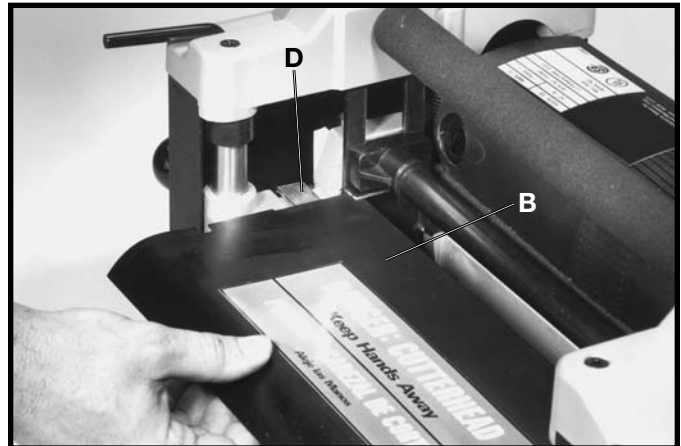
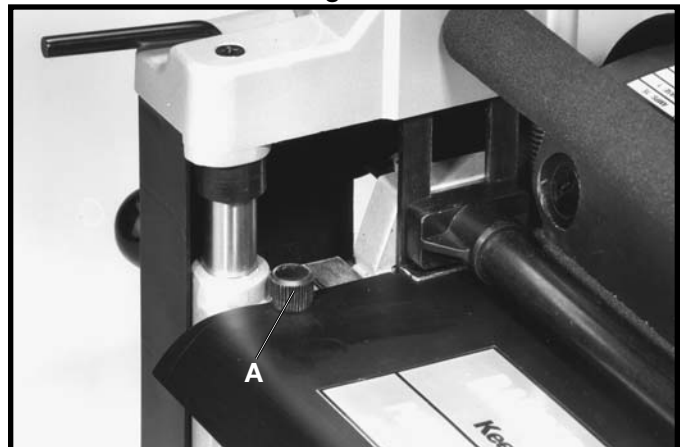

Fig. 31
Fig. 32
11. Replace cutterhead guard (B) Fig. 31, making sure cutterhead lock (D) is depressed and underneath guard as shown. Slide guard in as far as possible and replace two screws, one of which is shown at (A) Fig. 32. These screws were removed in **STEP 3**.